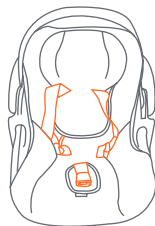

Fig. 33-1
3. Place the Safety Seat on a firm and level surface. Move the carry handle to the non rocking position. Loosen the Harness Straps by pulling on the straps while pushing on the Harness Adjuster Button located below the pad just in front of the buckle. Unfasten the Harness Chest Clip. Unbuckle the Harness Straps and drape the Harness Straps over the Seat back or to the sides of the Safety Seat (Fig. 33-1).